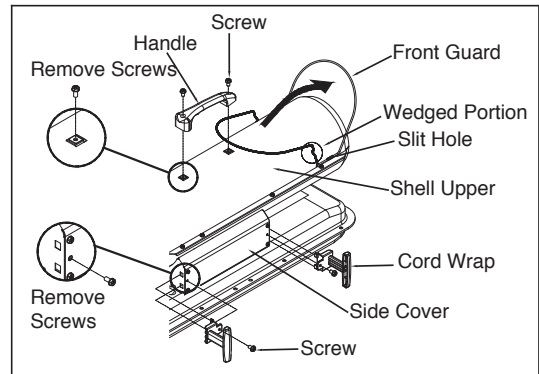

Figure 6. Assembling Handle & Cord Wrap
- 3) Align the holes in the upper housing with two mounting holes on the handle as shown in Figure 6.
- 5) Insert cord wrap into the rectangle holes on the supportor and align the hole on the cord wrap with the mounting hole on the side cover as shown in Figure 6. (KFA80H Model only)